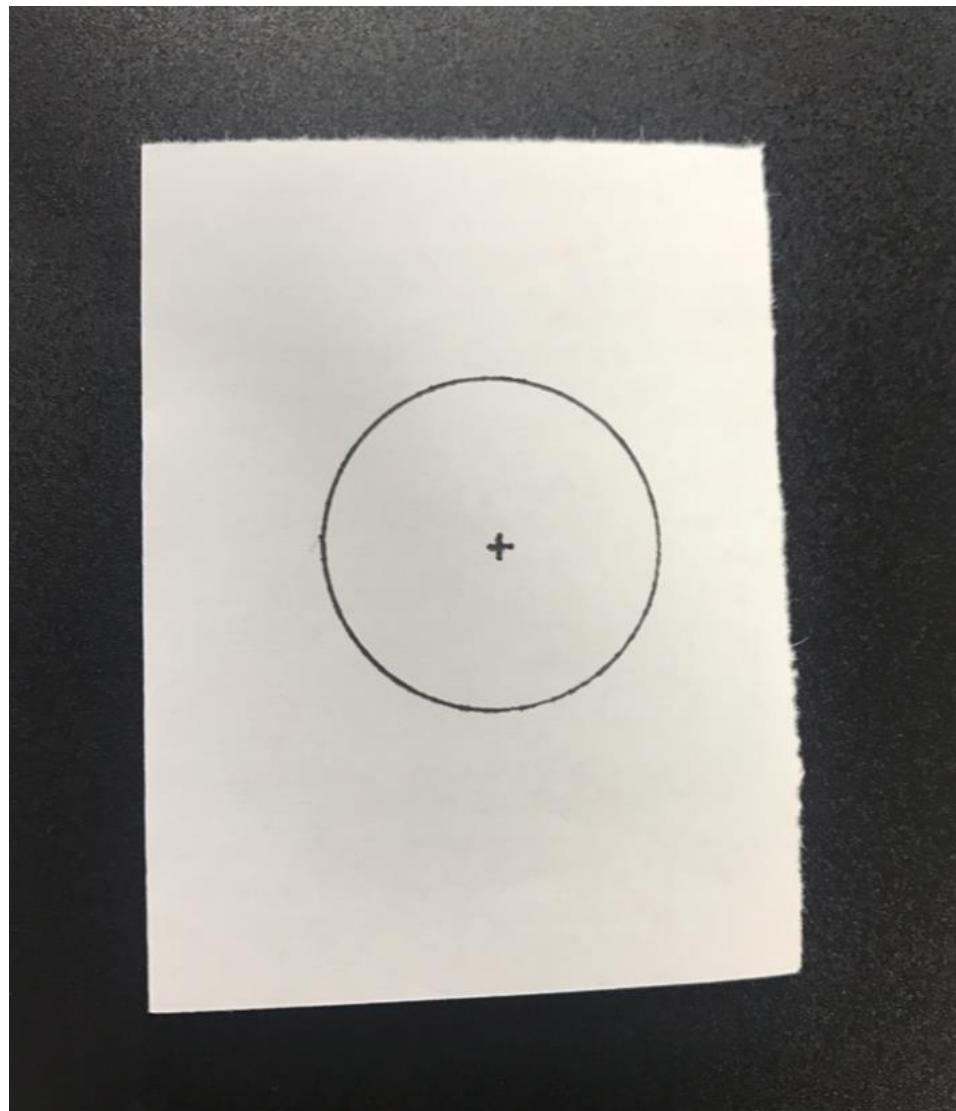

Figure 5.11 Put down a label on the conveyor
1. Put down a label on the conveyor, as shown in Figure 5.11.